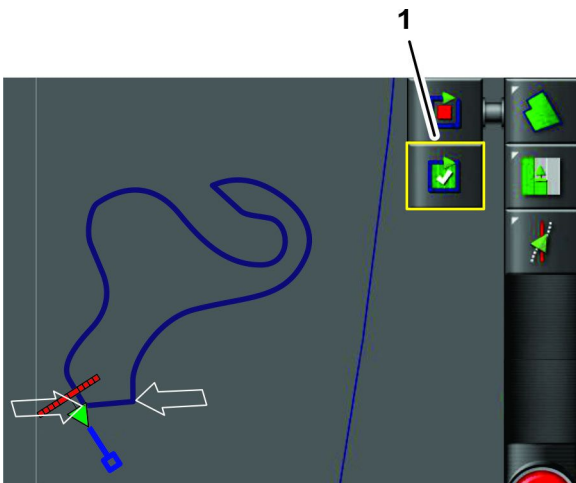

Figure 45
2. Press the COMPLETE FIELD BOUNDARY RECORDING icon (Figure 45).